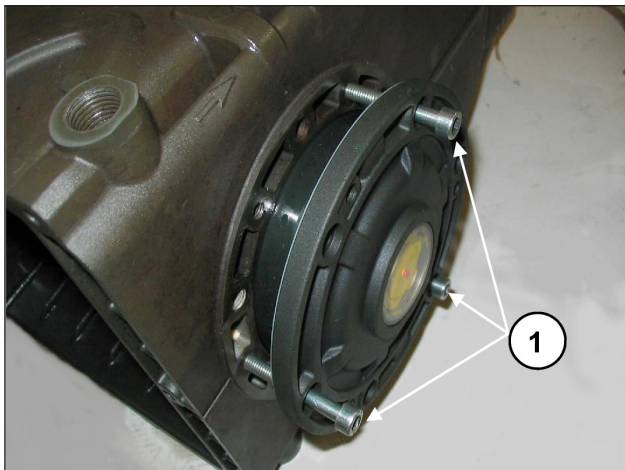

Fig. 8
To facilitate filling of the first section and relative fitting of the covers and/or the side flange, on the casing, it is recommended to use 3 partially-threaded M6 x 40 screws, (Fig. 8, pos. ①) to then complete the operation with the screws supplied.